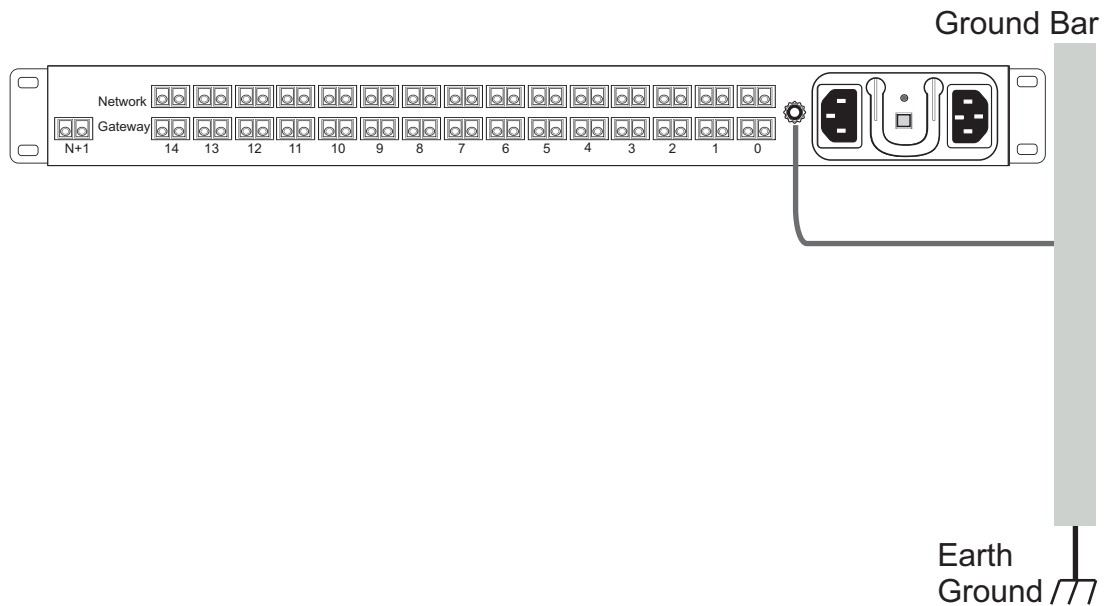

Figure 6.3 Chassis Ground Connection
1. Connect one end of a ground wire to the ground lug of the 7800 N+1 Patch Panel. See Figure 6.3 on page 49.